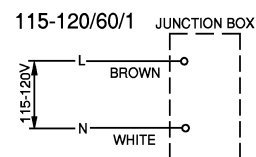

Fig. 3
- The white lead must be connected to the neutral conductor of the power source. Miswiring results in severe damage to the icemaker. See Fig. 3.